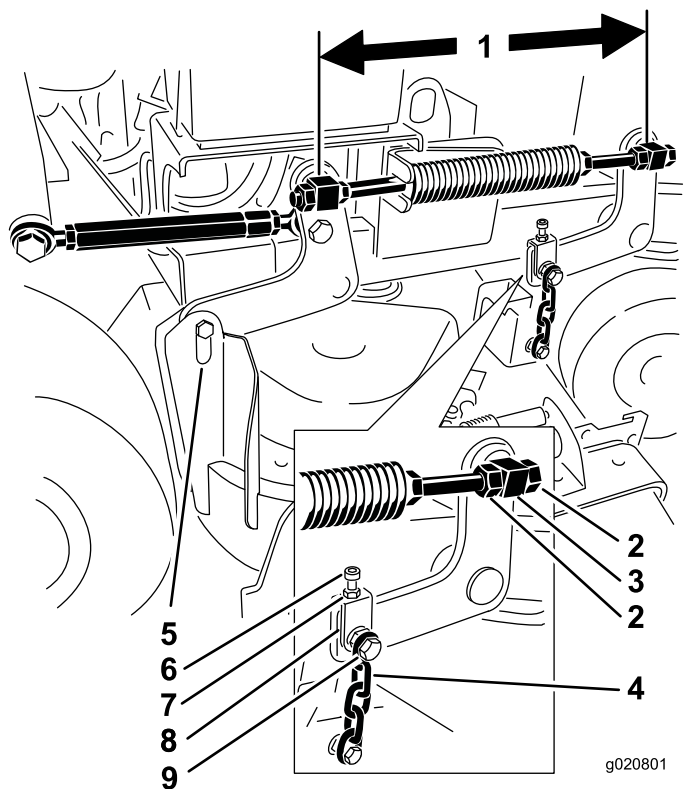

Figure 81
1. Check the distance between the swivels, measuring at the center of the swivels (center-to-center length) on each threaded rod (Figure 81).
2. Loosen the jam nuts at the **front** swivel (Figure 81).
4. Tighten the jam nuts at the **front** swivel (Figure 81).
4. Loosen the jam nuts at the right and left front swivels (Figure 81).
6. Tighten the jam nuts at the right and left front swivels (Figure 81).
4. Loosen the jam nuts at the left, front swivel (Figure 81).
6. Tighten the jam nuts at the left front swivel (Figure 81).
5. Loosen the upper chain bolts (Figure 81).
6. Loosen the jam nuts on each yoke (Figure 81).
8. Tighten the jam nuts and upper chain bolts (Figure 81).